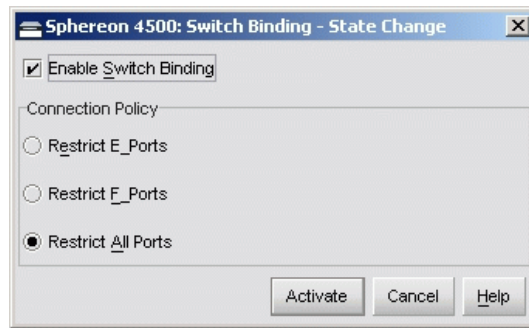

Figure 3-36 Switch Binding - State Change Dialog Box
- a. At the *Hardware View* (Figure 3-10 on page 3-20) for each switch, click *Configure* and select *Switch Binding* and *Change State*. The *Switch Binding - State Change* dialog box displays (Figure 3-36).